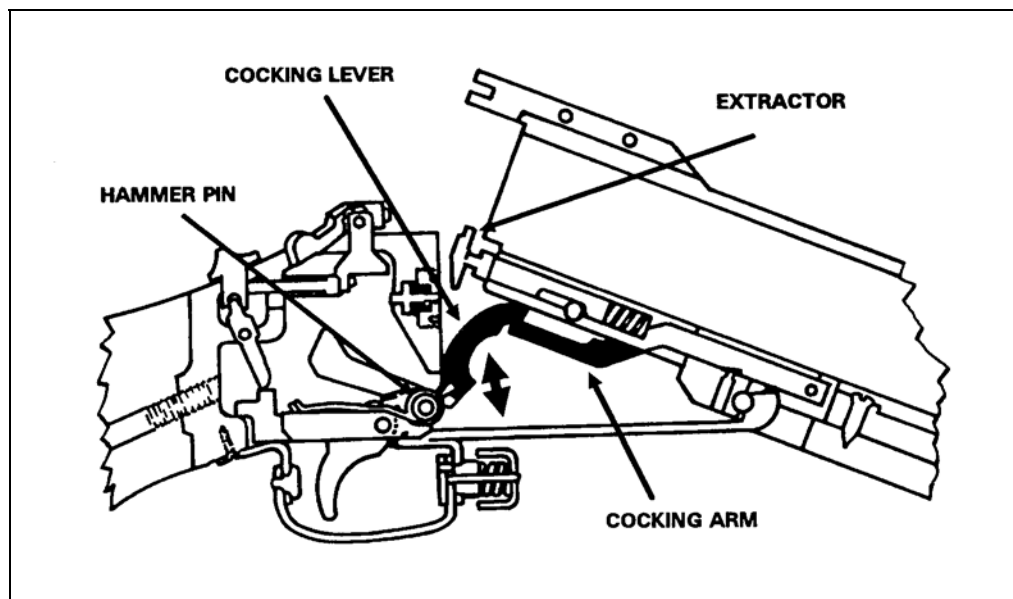

Figure A-16. Cocking the weapon and extracting a round or cartridge case.
c. **Extracting.** Extraction occurs while you are cocking the weapon (Figure A-16). As you open the barrel, the spring-loaded extractor withdraws the spent cartridge case about 1/2 inch from the breech end of the barrel.